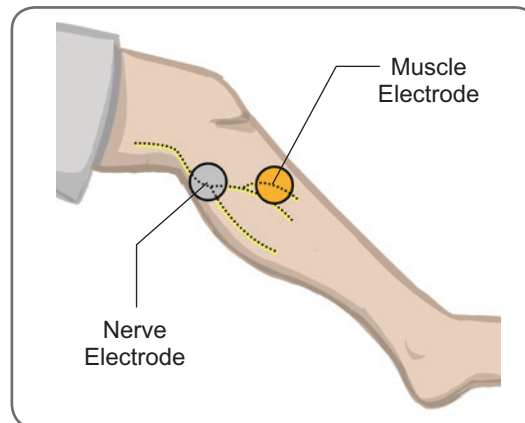

Figure 8-2: Positioning the Electrodes on the Leg
8. Position one electrode (the nerve electrode) over the common peroneal nerve, distal and slightly posterior to the fibular head. See Figure 8-2.